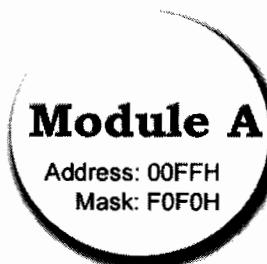

Figure 10
**Example:** Consider Module A with Module Address of 00FFH and Module Address Mask F0F0H (Figure 10).